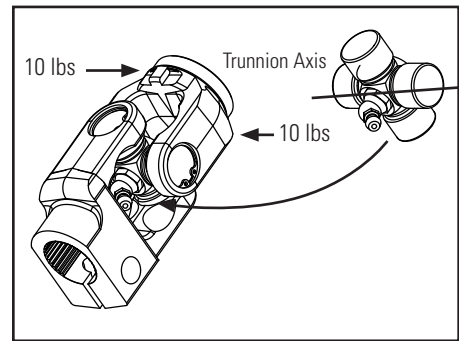

Figure 5 - Application of Load
6. Apply a sufficient load by hand (approximately ± 10 lbs) to the weld yoke along the other trunnion axis. **See Figure 5.**